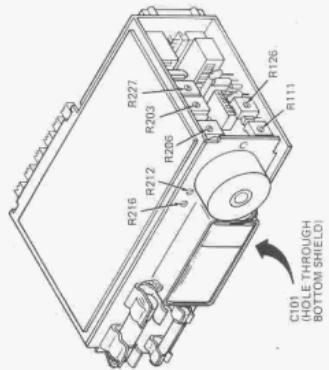

Figure 3-4. Calibration Control Locations
(3) For each step in table 3-7 select the listed digital multimeter function and range, and program the DMM calibrator for the corresponding input level. Then adjust the listed control until the digital multimeter displayed value agrees with the value listed in table 3-7. Refer to fig. 3-4 for location of calibration controls.
(3) Connect a jumper from black wire at slide switch to frame (analog ground) of either pushbutton switch assembly.
(4) Adjust R216 (fig. 3-4) for 0.00 display on digital multimeter, until minus (-) sign flashes on and off.
(5) Disconnect jumper from pushbutton switch frame and connect to red wire at slide switch. (The other end of jumper must still be connected to black wire at slide switch.)
(6) Adjust R212 (fig. 3-4) for 0.00 display on digital multimeter, until minus (-) sign flashes on and off.
(7) Disconnect both ends of jumper from slide switch wires.
(8) Toggle the slide switch while observing digital multimeter display. Digital multimeter shall display 0.00 \pm 10 counts.
(9) If digital multimeter does not display 0.00 \pm 10 counts, repeat steps (3) thru (8) above as necessary.
(10) Set digital multimeter POWER switch to OFF.
(11) Install circuit board assemblies in case (paragraph 2-2).